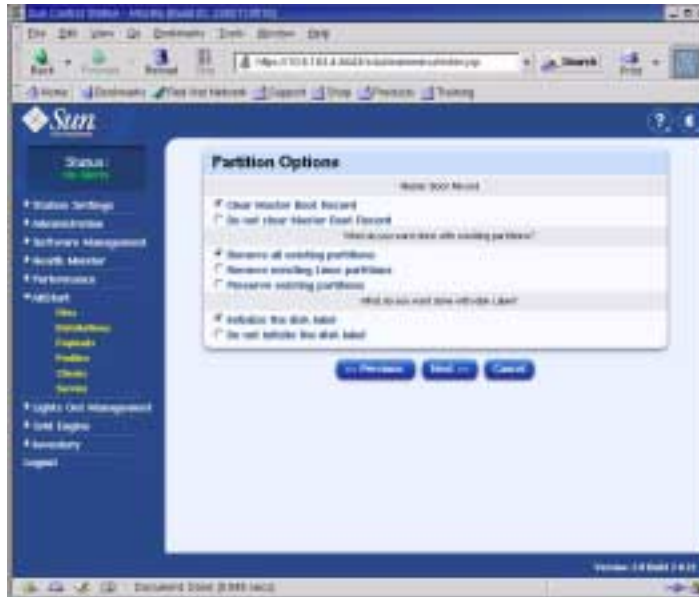

FIGURE 2-11 Partition Options Window (AllStart Profiles)
- c. In the Partition Options window, verify that the following required options are selected (see FIGURE 2-11 for an example). Click Next when you are finished.